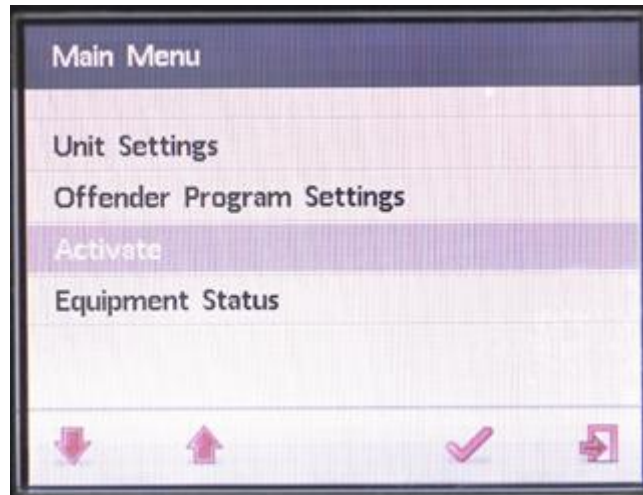

Figure 9: Main Menu
3. The Main Menu screen appears – see *Figure 9*.